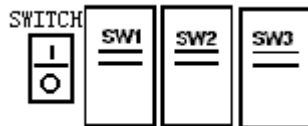

Fig12
- Opening front panel, namely seeing downside distribution box of power switch. Refer to Fig12、 13.